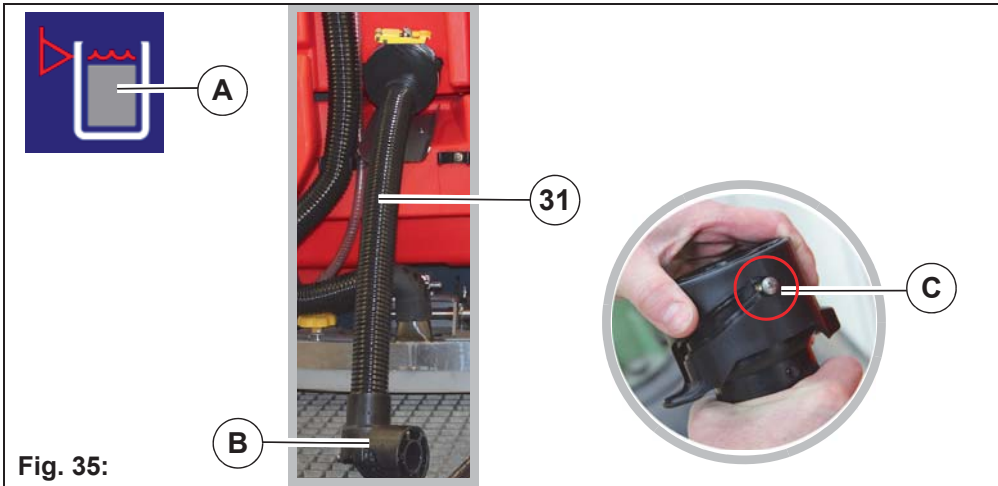

Fig. 35:
Clean the waste water tank **Fig. 36-38** daily or as required. When the symbol *Waste water tank full* **Fig. 35-A** appears in the display panel and an acoustic warning signal is output, the suction functions are switched off and the waste water tank should be drained immediately.
4. Remove the drain hose from the holder, open the drain valve **Fig. 35-A** and drain the waste water tank via the drain.